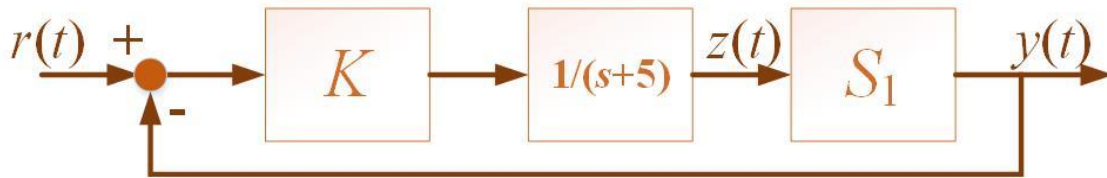

Figure 3: Block diagram of question 2
It is requested to draw, on a full page, the roots locus of the system (shown in Figure 3), but first you have to get **the open loop transfer function**.
- b) Obtain the open loop transfer function of the system shown in Figure 3. This transfer function will be used later.